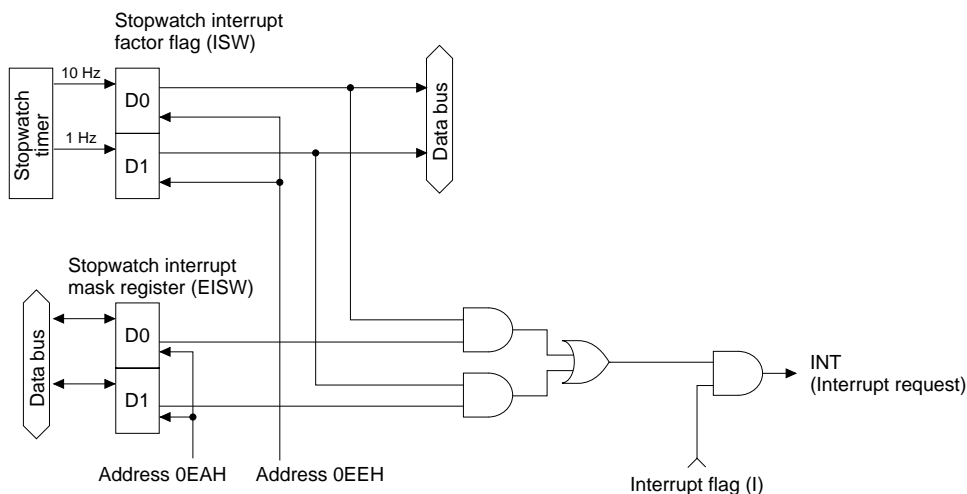

Fig. 3.12.4
The flag is reset, when it is loaded by software. (See Figure 3.12.4.)
- EISW1** This register enables or masks the 1 Hz stopwatch interrupt. The CPU is interrupted if it is in the EI state when the interrupt mask register (EISW1) is set to "1", and also the interrupt condition flag (ISW1) is "1". (See Figure 3.12.4.)
- EISW0** This register enables or masks the 10 Hz stopwatch interrupt. The CPU is interrupted if it is in the EI state when the interrupt mask register (EISW0) is set to "1", and the interrupt condition flag (ISW0) is "1". (See Figure 3.12.4.)